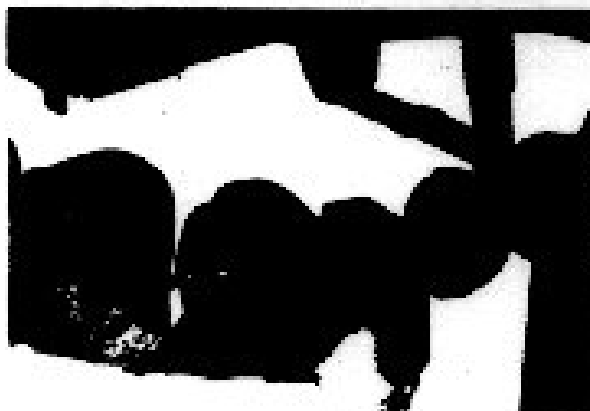

Fig. 4-2.
- 4) Take out the four (4) each of bolts on the upper and lower parts of the king pin.
- 6) Take out the eight joint seal bolts and pull out the front axle shaft as shown in the Fig. 4-2.